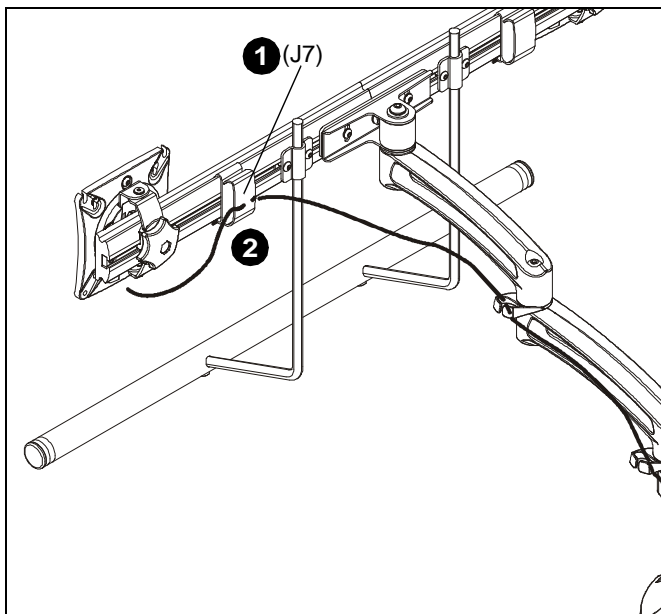

Figure 16
1. Install cable clips (J7) to back of array. (See Figure 16)
2. Route cables through cable clips (J7) as desired. (See Figure 16)